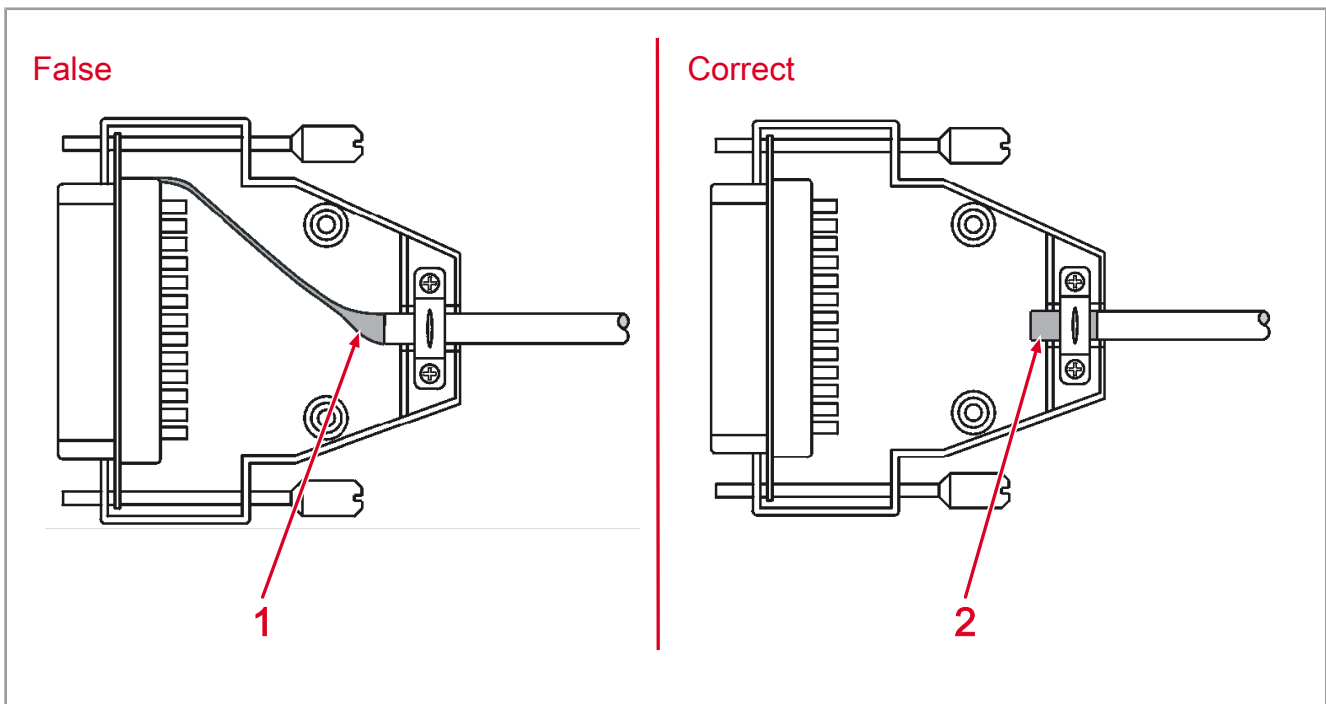

Fig. 1: Shield connection: correct/incorrect
- When using shielded cables, connect the shield to the connector with the greatest possible surface area. No pigtailed! (See figure 1).